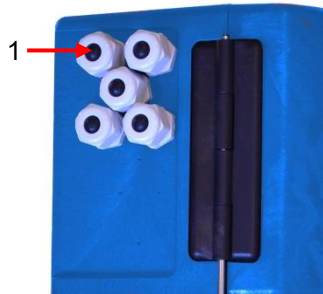

Figure 14
1. Take out the blanking plugs of the corresponding cable ductings (see Figure 14).